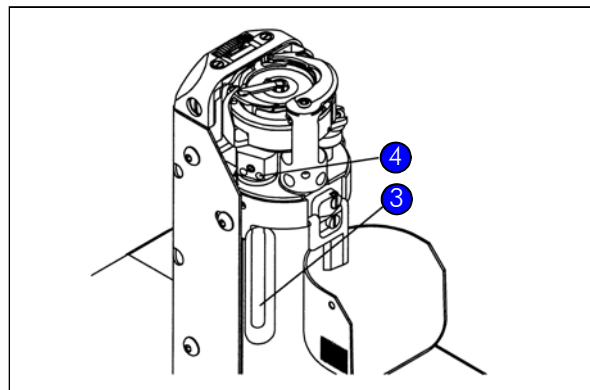

Figure 43 Lower section oil reservoir
- ▶ Check the oil level ③ of the gripper lubrication in the sewing machine's lower section, see Figure 43.
- ▶ If necessary, fill until the upper edge through opening ④. Only use oil in accordance to the specifications listed in section 3.